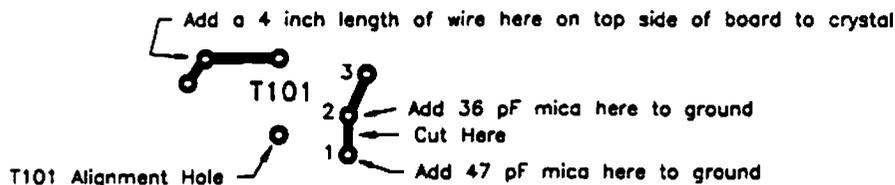

Figure 1
9. Cut trace to the right of T101 alignment hole, between the first and second component holes on trace going from front to back of set, (this trace has three component holes) see figure 1 below.
10. Solder a 47 pf Mica capacitor from hole 1 of foil you cut in step 9, to ground. See figure 1.
11. Solder a 36 pf Mica capacitor from hole 2 of foil you cut in step 9, to ground. See figure 1.
next to T101, (see figure 1). This is the junction of CR102 and R112.